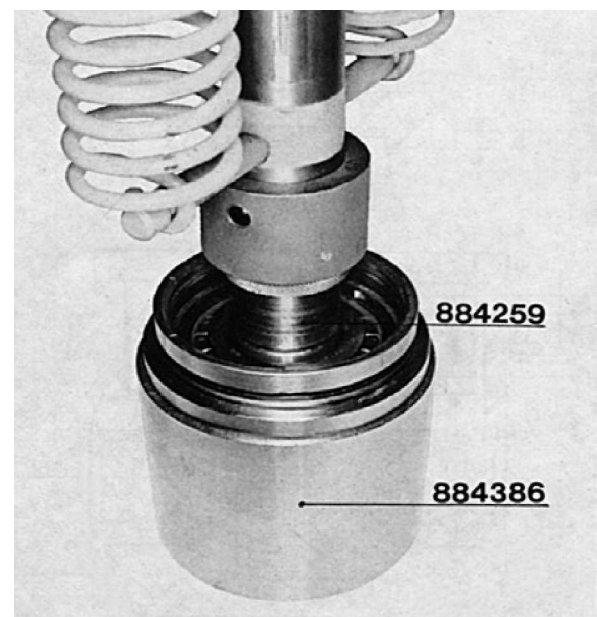

Fig. 6.
6. Remove the needle bearings and the spacer rings (48 and 49) from the upper and lower gear assemblies. Note that the needle bearings are matched in pairs, and must not get mixed up. Press the upper and lower gears loose from the bearings (39). Use tools 884386 and 884259 for this purpose.
7. Press the bearings (39) out of the bearing sleeves (40). Use tools 884386 and 884265 for this purpose.
8. Remove the twelve-sided bolt (34), 1/2" width across flats, a hexagonal socket screw is fitted on later drives as of and including PZ No. 272 1099 and the stop washer (35) in the center of the universal joint stem and pull out the joint. Then press the double bearing box (12) out of the clamp ring (36). Use a rubber mallet if necessary.
9. Remove the stop washer (18) from the double bearing box.
**NOTE:** Take care of the shims. Then remove the lock ring (17). After this take off the seal (16), which is always replaced by a new one. Press out the input drive (11) with the help of tools 884386 and 884259, see Fig. 6.